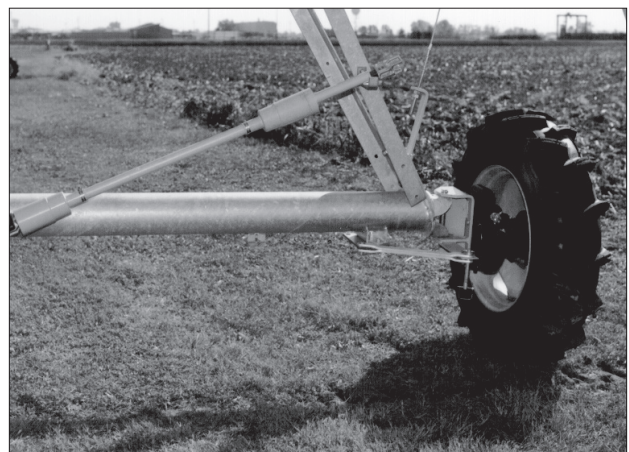

Figure 37-3 TOWING POSITION SHOWN
10. Lower the drive unit and remove the jack. The tire is now in the tow position. See figure 37-3.